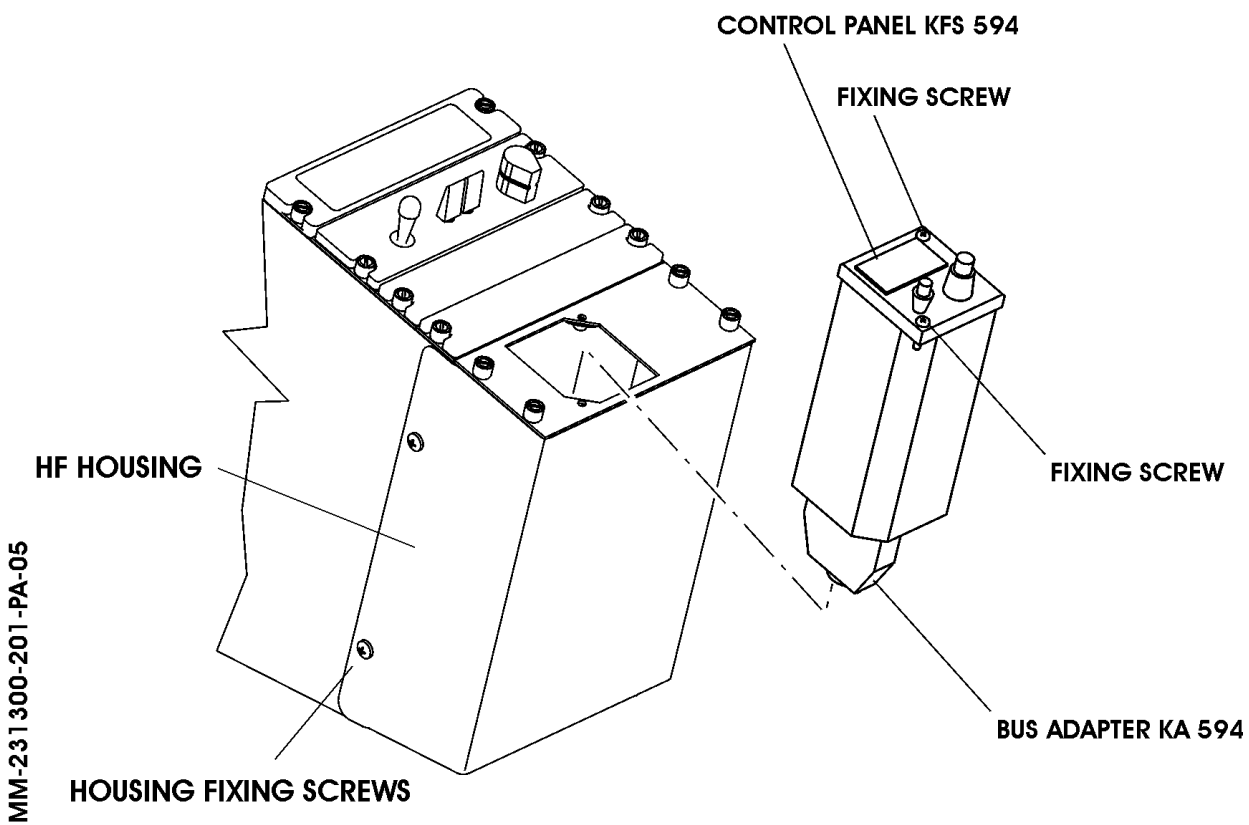

Fig. 201 - Control Panel KFS 594
2. Control Panel KFS 594 with Bus Adapter KA 594 - Removal (Refer to Fig. 201)
3. Control Panel KFS 594 with Bus Adapter KA 594 (Ferry Flight Configuration) - Removal (Refer to Fig. 201)
4. Control Panel KFS 594 with Bus Adapter KA 594 - Installation (Refer to Fig. 201)